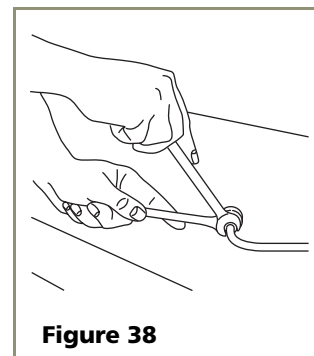

Figure 38
2. Locate the compression fitting and ferrule packed with the unit. Slide the compression fitting and ferrule over the 1/4-inch OD water supply line. Do not use thread sealing compound or tape. Using two wrenches, tighten the compression fitting on the supply line (see **Figure 38**).